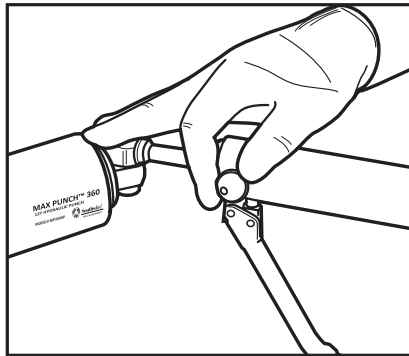

Fig. 6
8. Close pressure valve by turning clockwise to the "ON" position (Fig. 6).